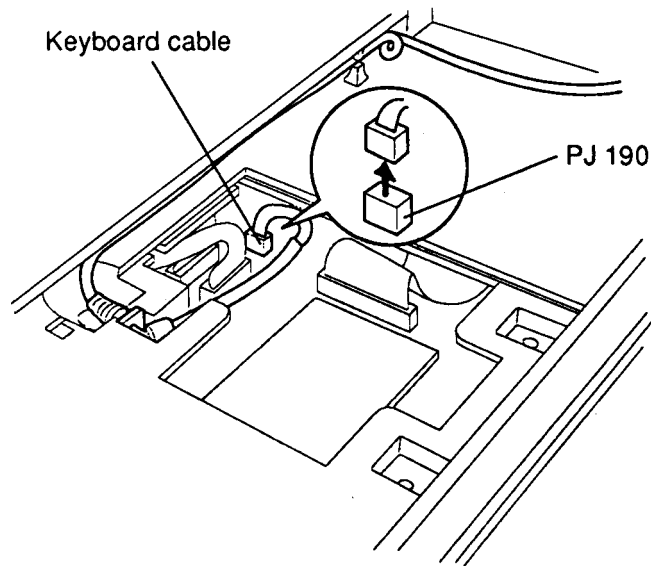

Figure 4-6 Removing the Keyboard Cable
6. Referring to Figure 4-6, locate the **keyboard cable** connection to the system board. Disconnect the **keyboard cable** from **PJ190** on the system board.
1. Connect the **keyboard cable** to **PJ190** on the system board (Figure 4-6).
2. Route the **keyboard cable** as illustrated in Figure 4-6.